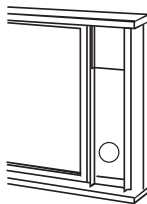

Fig. 14
3. Cut the foam seal (adhesive type) to the proper length and attach it on the top of the window kit. See Fig.14.